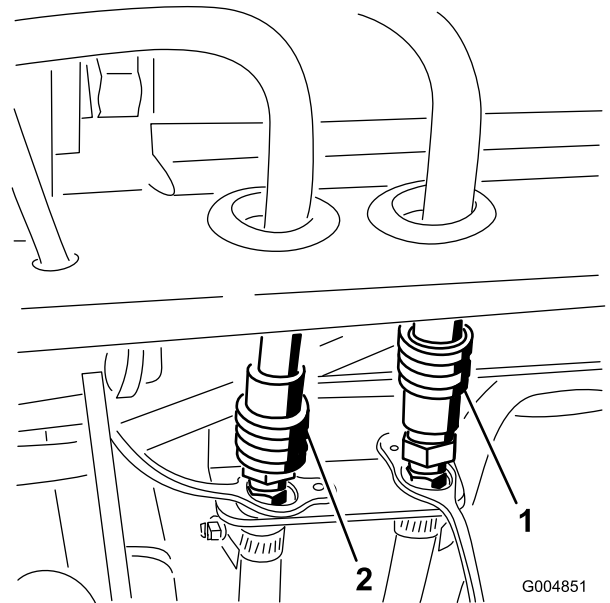

Figure 34
26. Connect the cab pressure and return hoses to the quick couplers on the rear frame mount (Figure 34).